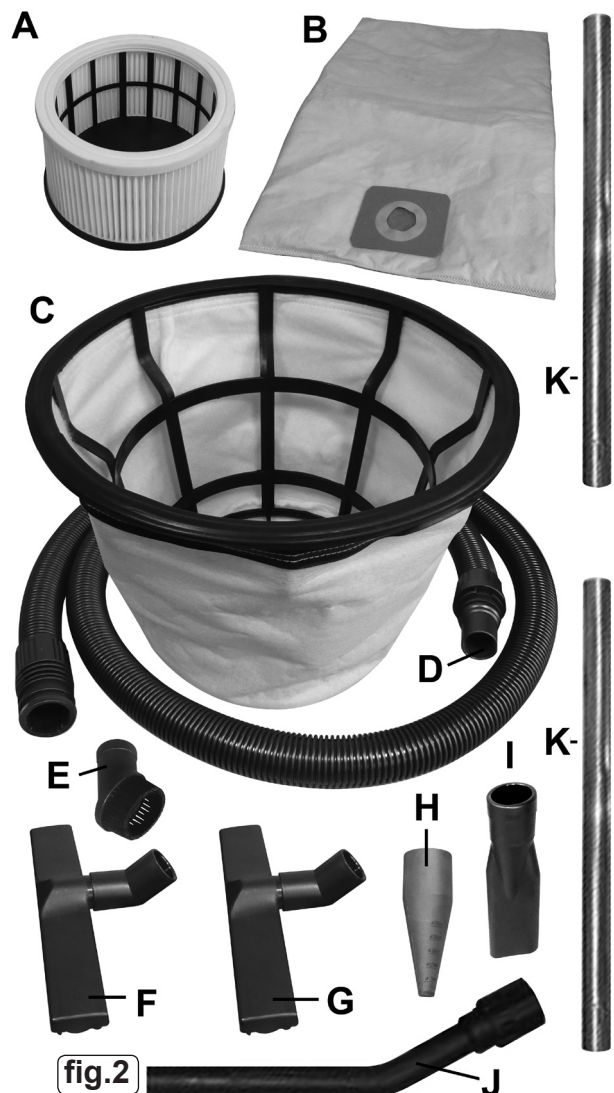

fig.2
**Accessories. Refer to fig.2.**
- 7.3.5 CONNECT THE REQUIRED ATTACHMENTS. Attachments such as the crevice tool (fig.2-I) and the brush (fig.2-E) can be pushed directly on to the end of the flexible hose. For floor work push the bent connector (fig.2-J) onto the flexible tube and then use the metal extension tubes (K) and either the dry floor tool (F) or the wet floor tool (G).